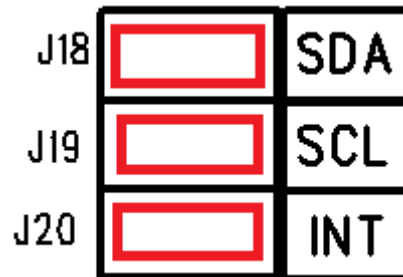

Figure 1-7 G-sensor I2C connection
4) **Mark 7:** I2C interface of 6-axis motion sensor. Connection of Jumper J18, J19 and J20 is shown in figure 1-7.